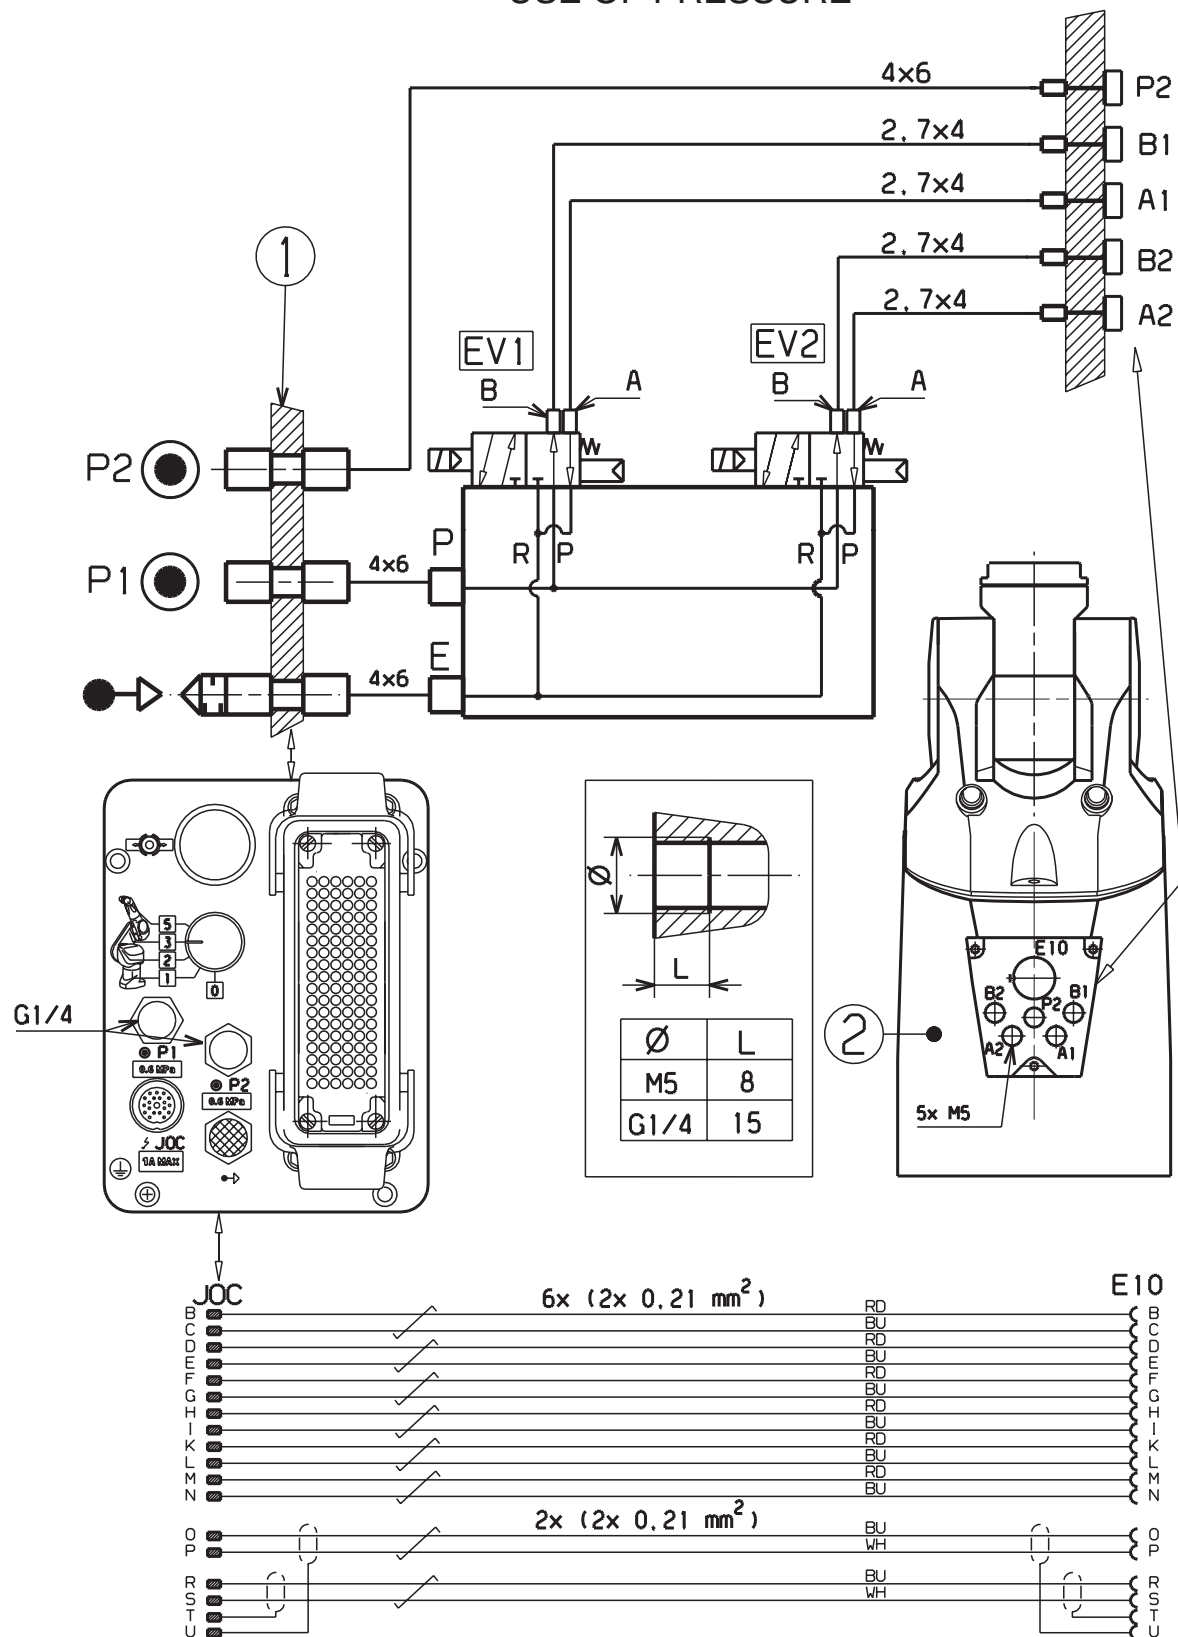

Figure 2.8
- ① Plate attached to base
- ② Forearm
2.9.1. DESCRIPTION (figure 2.8)
2.9.4. ELECTRIC CIRCUIT (figures 2.8 and 2.9)